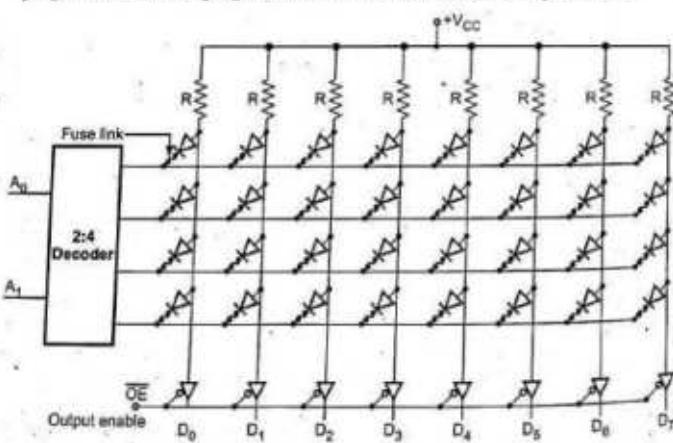

Fig. 7.5.3 Four byte PROM
- Fig. 7.5.3 shows four byte PROM. It has diodes in every bit position; therefore, the output is initially all 0s. Each diode, however, has a fusible link in series with it. By addressing bit and applying proper current pulse at the corresponding output, we can blow out the fuse, storing logic 1 at that bit position. The fuse uses material like nichrome and polycrystalline. For blowing the fuse it is necessary to pass around 20 to 50 mA of current for period 5 to 20  $\mu$ s.